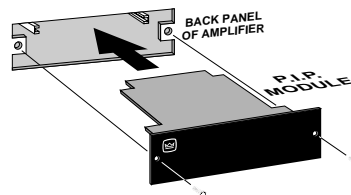

Fig. 4.5 Installation into a Standard *P.I.P.* Amplifier
*Standard P.I.P. Amplifiers:* Align the edges of the *IQ–P.I.P.–SMT* in the *P.I.P.* card rails and firmly push the unit in until it is seated against the mounting bracket (see Figure 4.5).